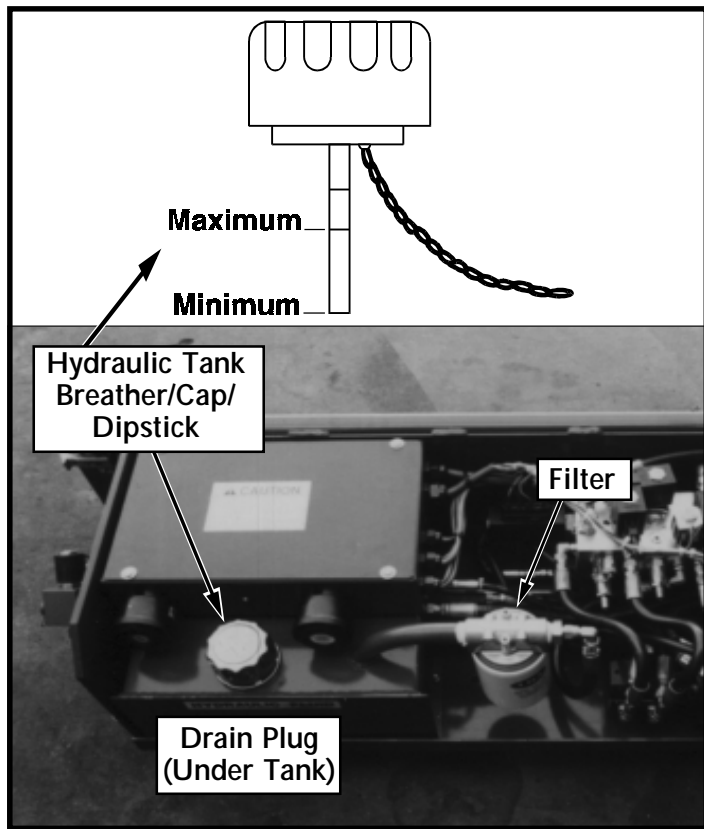

Figure 4-5: Hydraulic Oil Tank and Filter
4.5 Setting Hydraulic Pressures (Figure 4-5)
MAIN RELIEF VALVE (Figure 4-5)